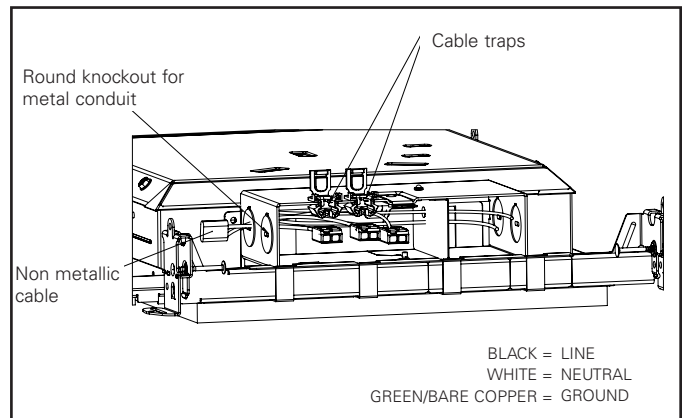

Figure 14.
2. Remove junction box cover (Figure 14).